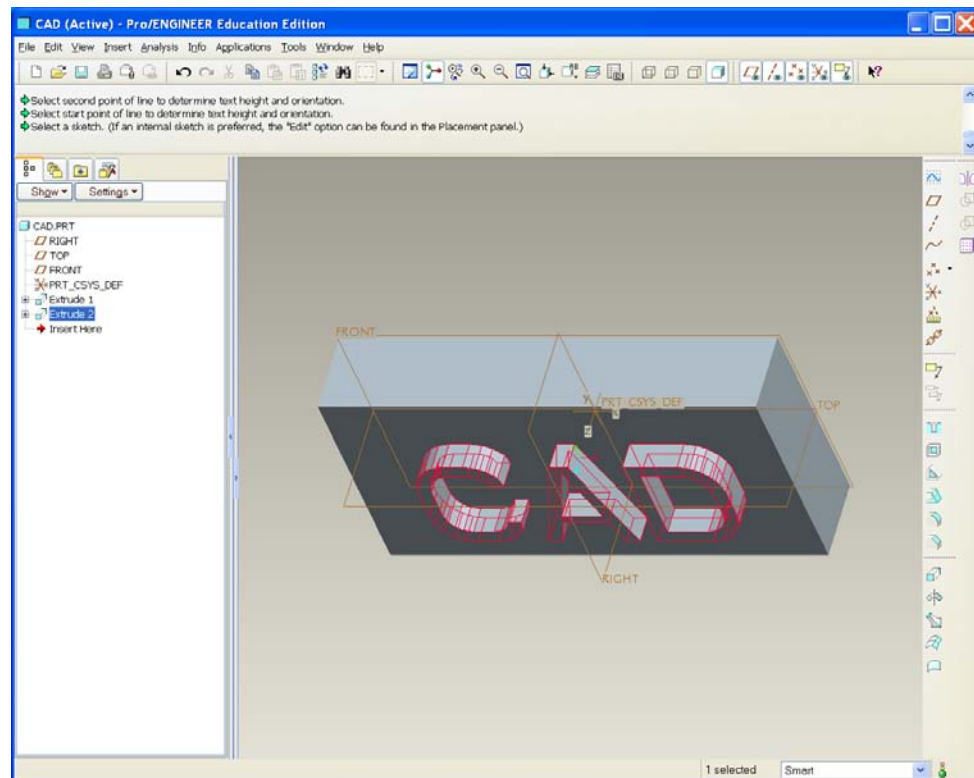

Figure 1.12 Part model
A. Produce the part model. The part consists of two features, together forming a block (4" x 8" x 1.5") with raised letters "CAD" as shown in Figure 1.12.
6. Create 2" x 6" x 0.25" letters "CAD" on top of the block as shown in Figure 1.12.
- View the created part (Figure 1.12). View → Orientation → Standard Orientation.